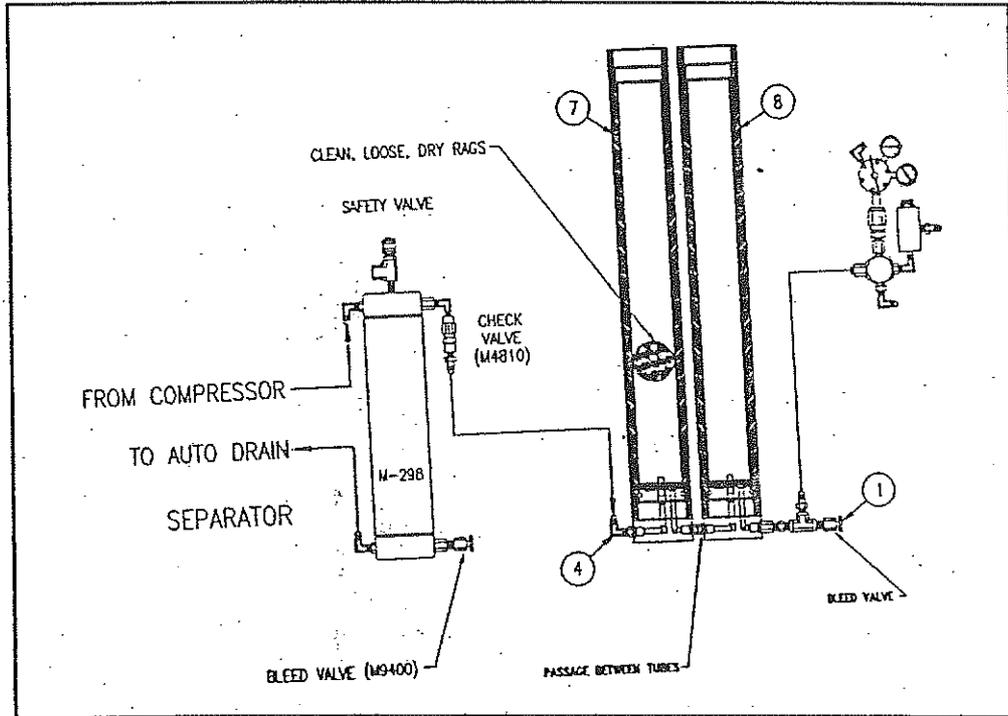

**FIGURE 5-8 CHAMBER DRYING**
8. Soak up any water in the bottom of the chambers (7) (8) using clean, dry rags (see Figure 5-8).
9. Reconnect the line at fitting (4) (see Figure 5-8).